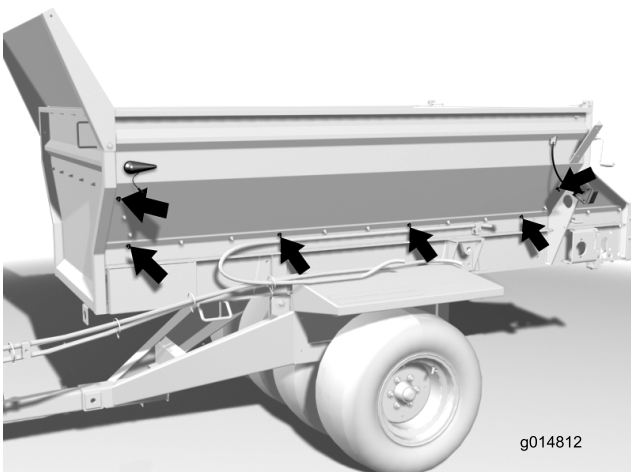

Figure 6
1. Tail light assembly (2)
8. Remove the (6) nuts from each side of the hopper as shown in Figure 6.